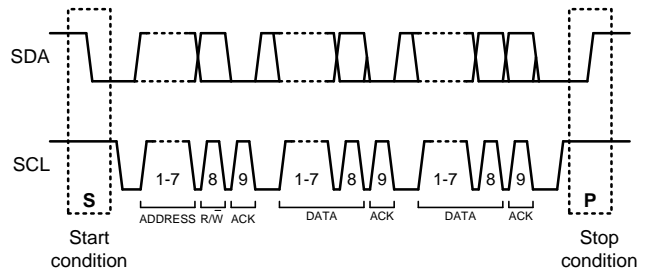

Figure 8. A Complete Data Transfer
Data transfers follow the format shown in Figure 8. After the START condition (S), a slave address is sent. This address is 7 bits long followed by an eighth bit which is a data direction bit (R/W) - a ‘zero’ indicates a transmission (WRITE), a ‘one’ indicates a request for data (READ). A data transfer is always terminated by a STOP condition (P) generated by the master. However, if a master still wishes to communicate on the bus, it can generate a repeated START condition (Sr) and address another slave without first generating a STOP condition. Various combinations of read/write formats are then possible within such a transfer.